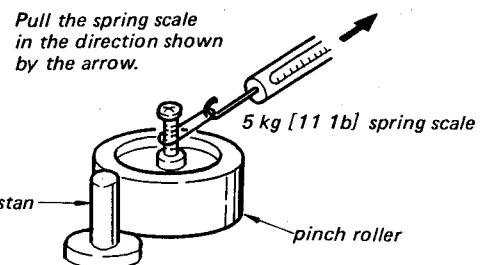

Fig. 5-1-4. Pinch roller pressure adjustment (2)
3. Attach the spring scale (5 kg) to the pinch roller shaft with a piece of string. See Fig. 5-1-4. Pull the scale horizontally in the direction shown by the arrow. The capstan shaft, pinch roller and the spring scale should be in a line. Check the reading just when the pinch roller separates from the capstan.
4. Adjust the adjusting nut (B) for  $2.2 \pm 0.2$  kg. (4.4 to 5.3 lb)
6. After adjustment, lock the adjusting nut (B) by the lock nut (B).
7. Adjust the adjusting nut (A) for the clearance of 0.1 to 0.2 mm between the lock nut (A) and the link shaft.
8. Lock the adjusting nut (A) by the lock nut (A).